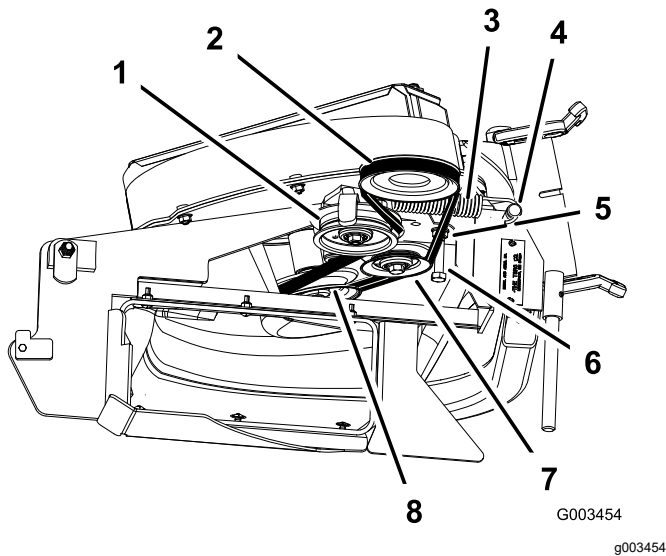

Figure 14
2. For 48- and 52-inch machines, loosen the belt-guide bolt (Figure 14).
3. Install the belt around the blower pulley and fixed-idler pulley (Figure 14).